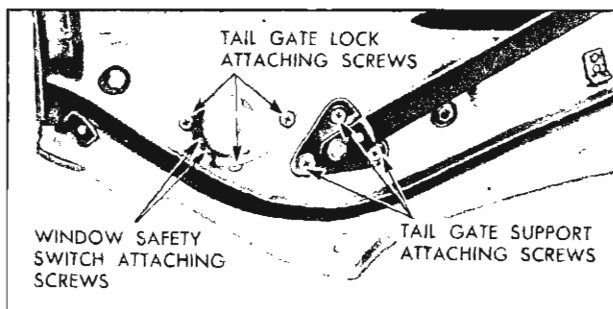

Fig. 82—Tail Gate Lock and Support
7. Suitably support tail gate to facilitate detachment of tail gate supports, then remove support attaching screws (fig. 82) from both sides of tail gate and fold supports against body.